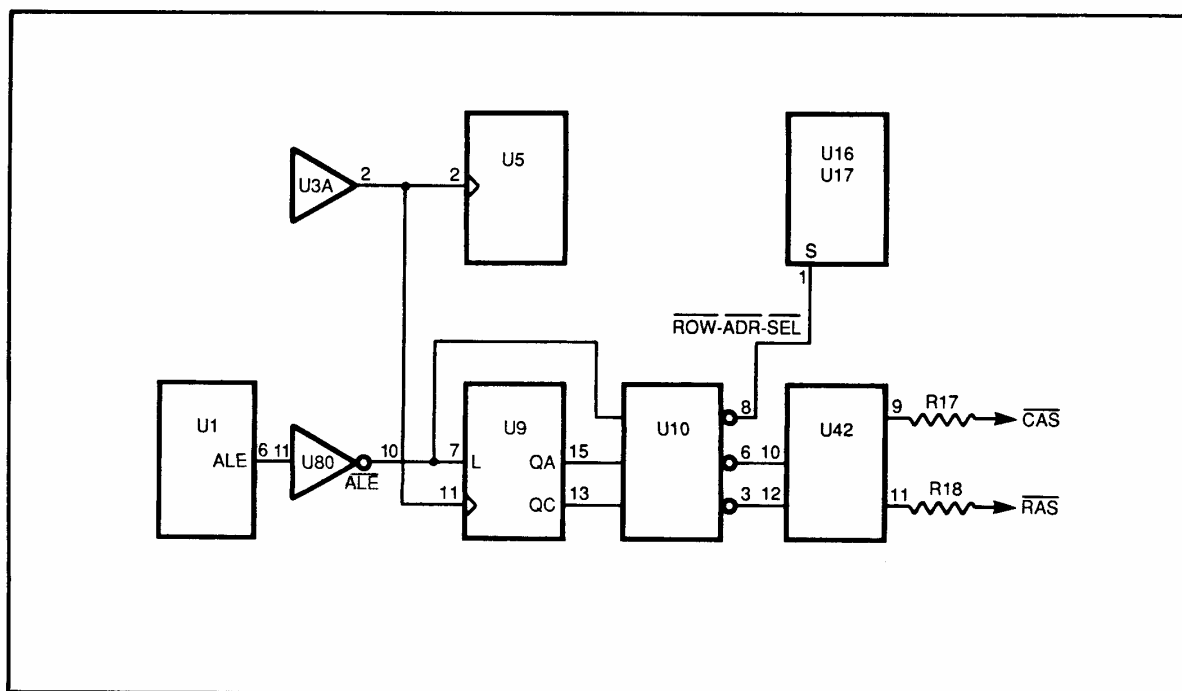

Figure 8-78. Logic Timing
- e. Logic Timing. Timing sequences (Figure 8-78) are provided by a sequence generator formed by U5 and U9. U5 counts the pixel clock from U3A, pin 2. U9 takes the address latch enable line \overline{ALE} (U1, pin 6, inverted by U8D) as a serial input, and clocks the signal through the IC at pixel rate so that \overline{ALE} is at the phase shifted outputs of QA and QC (pins 15 and 13).